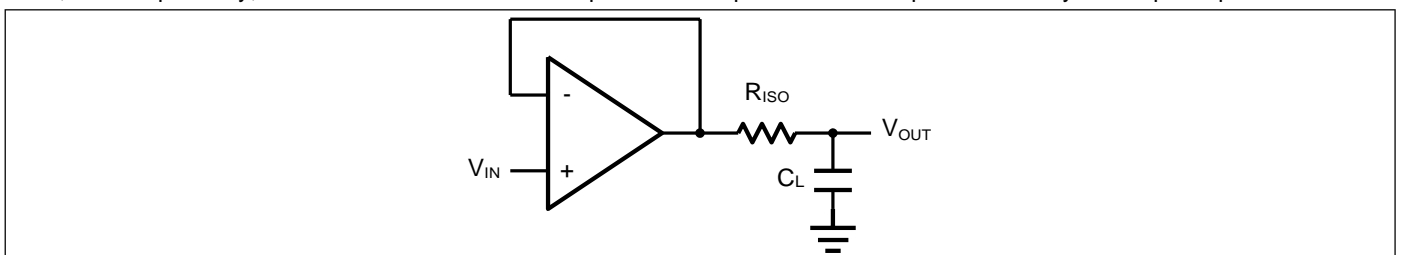
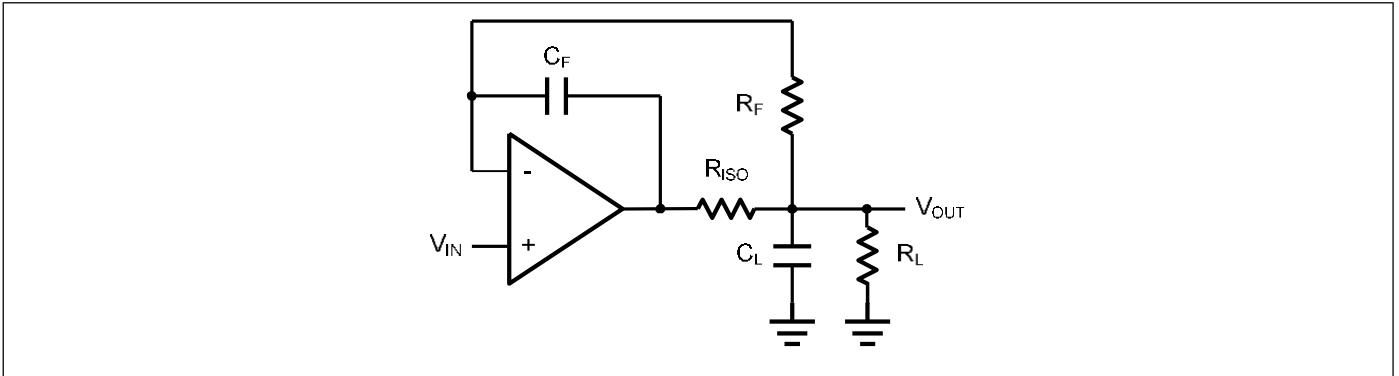

Figure 2. Indirectly Driving a Capacitive Load Using Isolation Resistor
Figure 3. Indirectly Driving a Capacitive Load with DC Accuracy
The MA805X family is optimized for bandwidth and speed, not for driving capacitive loads. Output capacitance will create a pole in the amplifier's feedback path, leading to excessive peaking and potential oscillation. If dealing with load capacitance is a requirement of the application, the two strategies to consider are (1) using a small resistor in series with the amplifier's output and the load capacitance and (2) reducing the bandwidth of the amplifier's feedback loop by increasing the overall noise gain. Figure 2. shows a unity gain follower using the series resistor strategy. The resistor isolates the output from the capacitance and, more importantly, creates a zero in the feedback path that compensates for the pole created by the output capacitance.
The circuit in Figure 3 is an improvement to the one in Figure 2.  $R_F$  provides the DC accuracy by feed-forward the  $V_{IN}$  to  $R_L$ .  $C_F$  and  $R_{ISO}$  serve to counteract the loss of phase margin by feeding the high frequency component of the output signal back to the amplifier's inverting input, thereby preserving the phase margin in the overall feedback loop. Capacitive drive can be increased by increasing the value of  $C_F$ . This in turn will slow down the pulse response.